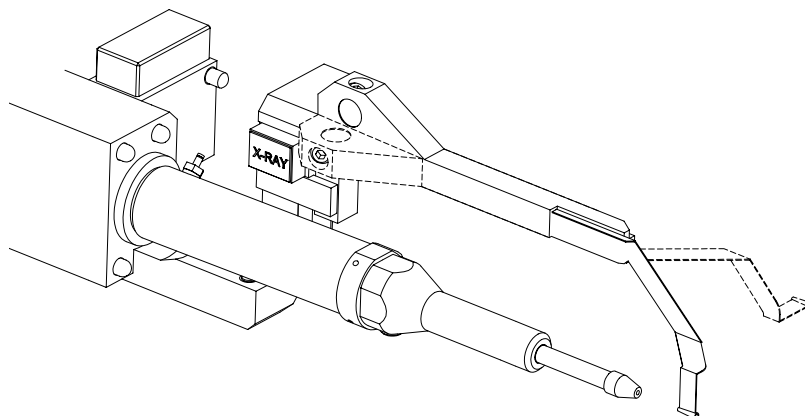

Figure 9.10.2 Schematic showing the rotated beam stop (dashed line shows “up” position and solid line shows “down” position).
3. Flip the beam stop to the DOWN position (see figure 9.10.2)
2. Flip the beam stop to the UP position (see Figure 9.10.2)
3. Flip beamstop to the “up” position (see Figure 9.10.2)